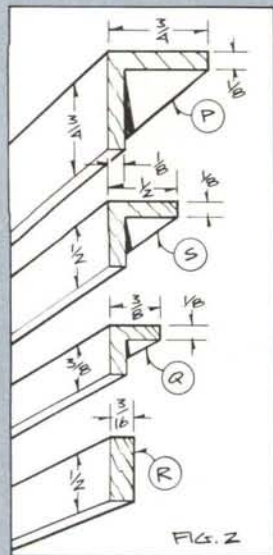

FIG. 2
Once the dormers have been mounted to the house, you can get to work on some details. Make the chimney (O) as shown, then cut the various corner, cap and trim parts (P, Q, R, S). The corners and caps could be made by edge-gluing thin boards at a right angle, but it's easier to just take square stock ($\frac{3}{4}$ in. for the wide corner, $\frac{1}{2}$ in. for the medium corner, $\frac{3}{8}$ in. for the narrow corner), and cut a rabbet into it. With each of the corner pieces, the rabbet should leave $\frac{1}{8}$ in. thickness, as shown in the trim detail (Fig. 2). When rabbeting small parts like this, remember that it's safer to work on the router table, as opposed to using the table saw and dado head. Also, cut the stair (T), foundation (U), foundation extension (V) and front step (W). The foundation and foundation extension are cut from $\frac{3}{4}$ in. thick plywood; the front step is $\frac{3}{8}$ in. thick plywood. But, don't mount any of these parts (T through W) yet. As we'll soon see, getting everything on at the right time will go a long way toward simplifying the building of the dollhouse.